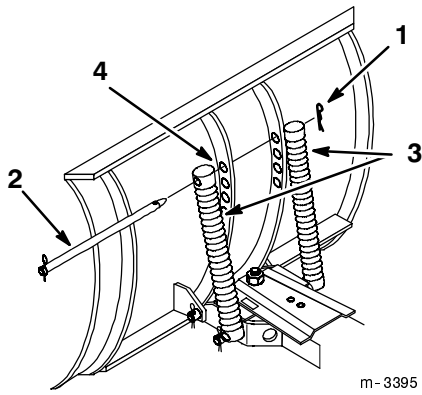

Figure 21
You can mount the blade trip springs in four positions. The top hole provides the greatest scraping pressure and the bottom hole provides the least scraping pressure (Fig. 21). Toro recommends using the second hole from the top for removing snow.
1. Remove the hairpin cotter and slide the rod from the blade and springs (Fig. 21).
2. Slide the rod through the springs and the new hole position in the blade (Fig. 21).